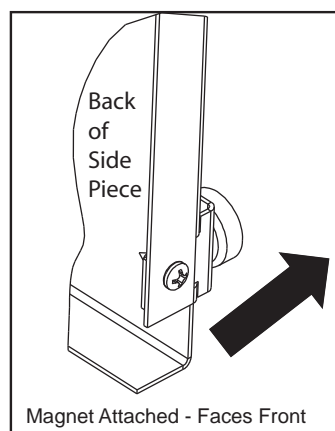

Figure 32.2
6. Secure the magnet to the bracket and attach the magnet and bracket to each metal side piece at the bottom. The magnet is facing the front. **Figure 32.2.**